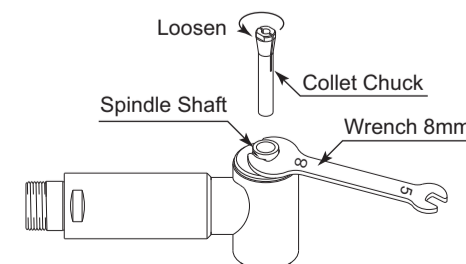

Fig. 4
- Place the provided 8mm wrench on the spindle shaft, and turn the top of the collet chuck counterclockwise to remove the collet chuck. (Fig. 4)